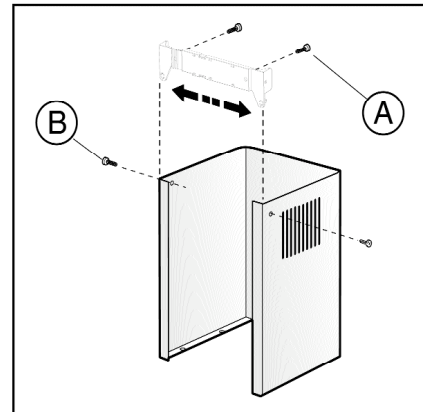

Fig.3
- Adjust the width of the support bracket (fig 3), then fix it into the ceiling using the screws shown in fig 3 - **A**. This should be as shown in fig 3.